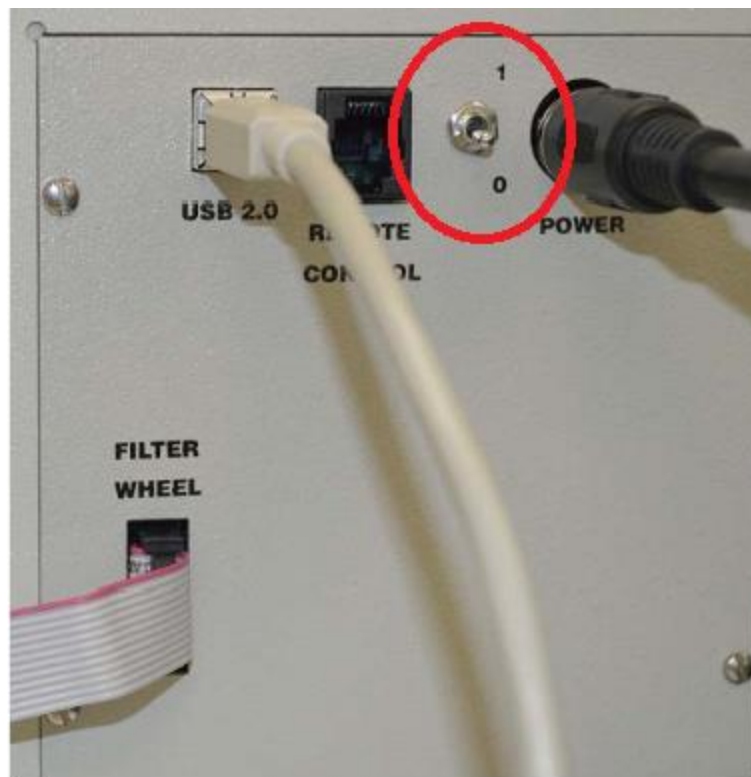

Figure 4: The On/Off switch of the Cornerstone 130 Monochromator (USB version shown) circled in red
4. Turn on TLS. Turning on the Cornerstone 130 Monochromator, OPS Series Power Supply, and igniting the lamp turns on all components of the TLS system. Figure 4 shows the On/Off switch of the Cornerstone 130 Monochromator. The 0 position indicates the monochromator is Off and moving the switch to the 1 position turns on the monochromator.